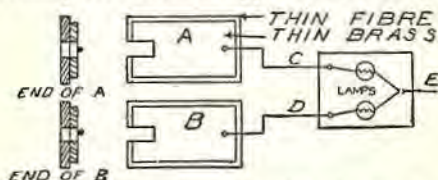

Fig. 20. Device for synchronizing interrupters.
In order to measure accurately the 30° and 60° intervals, the mechanic should connect a small lamp in series with each set of contacts similar to the test set in Fig. 20, page 221, to indicate the instant the points separate. An ordinary protractor, or similar measuring device calibrated in degrees and approximately 4" in diameter, must be used to measure the number of degrees of interval between the separation of the contacts. Small scratches may then be made on the distributor housing opposite a previously made scratch or mark at any point on the edge of the rotor, indicating the actual intervals between the separation of the two sets of contacts. These angular distances may then be measured with the protractor, and if not correct, the contact mounting plate may again be slightly shifted.
Fig. 20 shows a simple device which is of material assistance in synchronizing the operation of two sets of timing contacts. This handy test set consists of a small block of wood upon which are mounted two small 6-volt lamps provided with the leads (C), (D), and (E). Terminals (A) and (B) are each made of a thin piece of fiber 1½" by 1", one side being covered by a thin piece of brass or copper to serve as a contact.